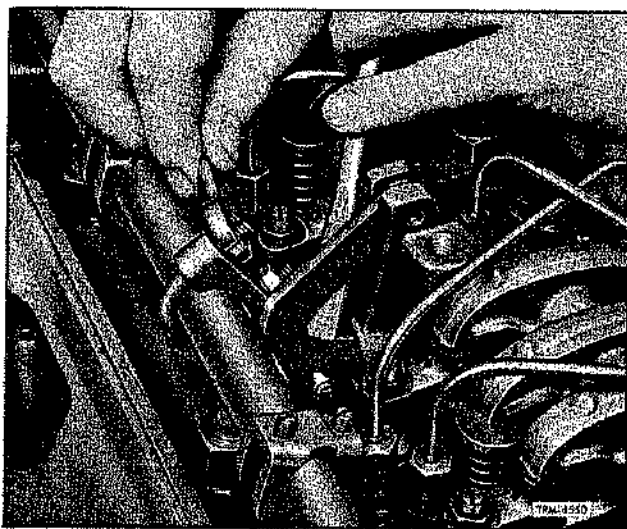

Figure 8—Fuel Modulator Adjustment
1. Hold fuel modulator piston and cam in high speed position by applying not less than 20 psi air pressure to piston or by prying cam out with a screwdriver (fig. 8).